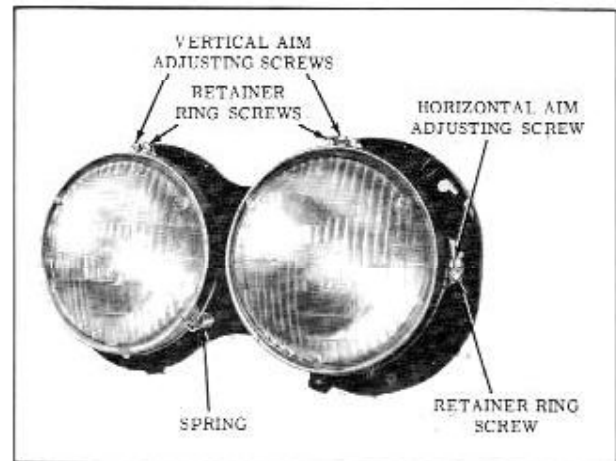

Fig. 13-79 Headlamp Retaining Ring Removal
3. Remove 2 retaining ring attaching screws, but DO NOT DISTURB THE ADJUSTING SCREWS. (Fig. 13-79)